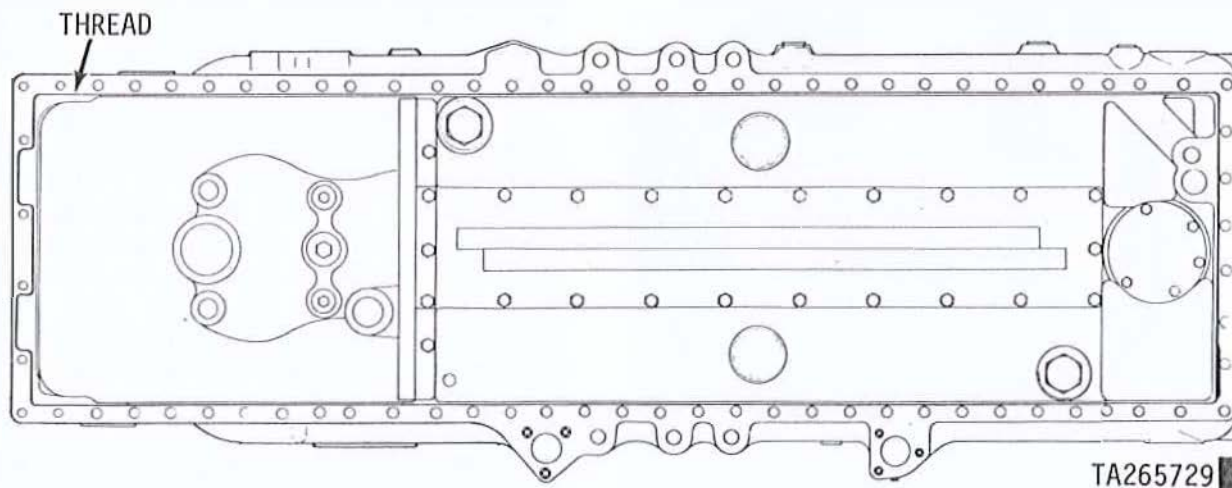
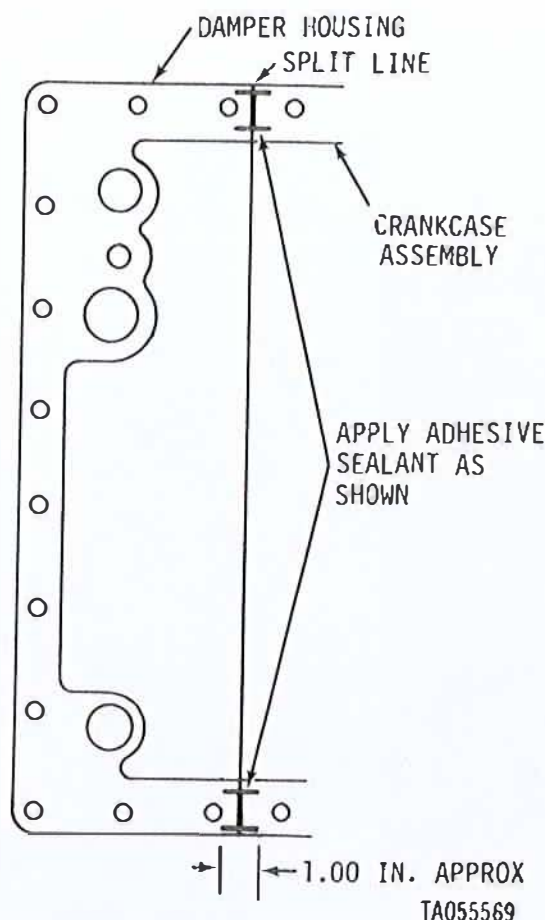

Figure 3-320. Installing oil pan sealing thread.
Figure 3-320.1. Bottom flange of damper housing and crankcase showing sealant application.
install sealing thread (fig. 3-320). Apply a 1/16 to 1/8 inch bead of Specification MIL-A-46106 adhesive sealant at the split line (fig. 3-320.1) on the bottom flange of the damper housing and crankcase assembly. Support the oil pan adequately and position oil pan on crankcase assembly. Install one self-locking nut and washer on each side of the oil pan to prevent pan from falling when engine is rotated to upright position. Secure oil pan (4, fig. 3-97) to each side of the crankcase assembly with 27 self-locking nuts and flat washers (3) and to the crankshaft damper and oil filter housing (2) with nine capscrews, lockwashers and flat washers (1). Secure oil pan to rear of crankcase assembly with eight capscrews, lockwashers and flat washers (fig. 3-96). Torque tighten oil pan bolts to 175 pound-inches. On model AVDS-1790-2DR, install pipe elbow (6, fig. 3-97.1), bushing (5), nipple (7), tee (4), pipe elbow (3), auxiliary generator high oil pressure switch (2), and high oil pressure transmitter (1).